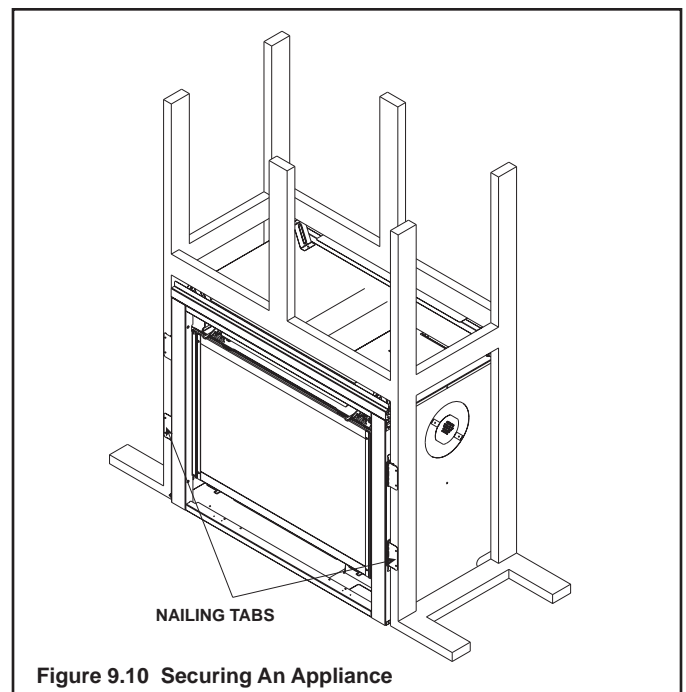

Figure 9.10 Securing An Appliance
8. Secure the appliance to the framing by using nails or screws through the nailing tabs. It is acceptable to use plumber strap to secure the unit to the framing if necessary. See Figure 9.10. Be sure to maintain all clearances to combustible material.